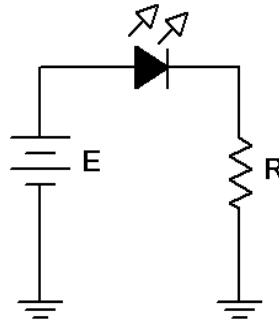

Figure 4.1
1. The forward potential of an LED depends on its design and the current flowing through it. The other two circuits in this exercise are designed to produce LED currents of approximately 10 mA so a determination of the forward potential of this particular diode at 10 mA is desired. Assemble the circuit of Figure 4.1 using  $R = 470 \Omega$ , and  $E = 5$  volts. Insert an ammeter in line with the LED. Increase  $E$  until 10 mA is reached (the LED should be reasonably bright). Record the resulting LED voltage in Table 4.1.